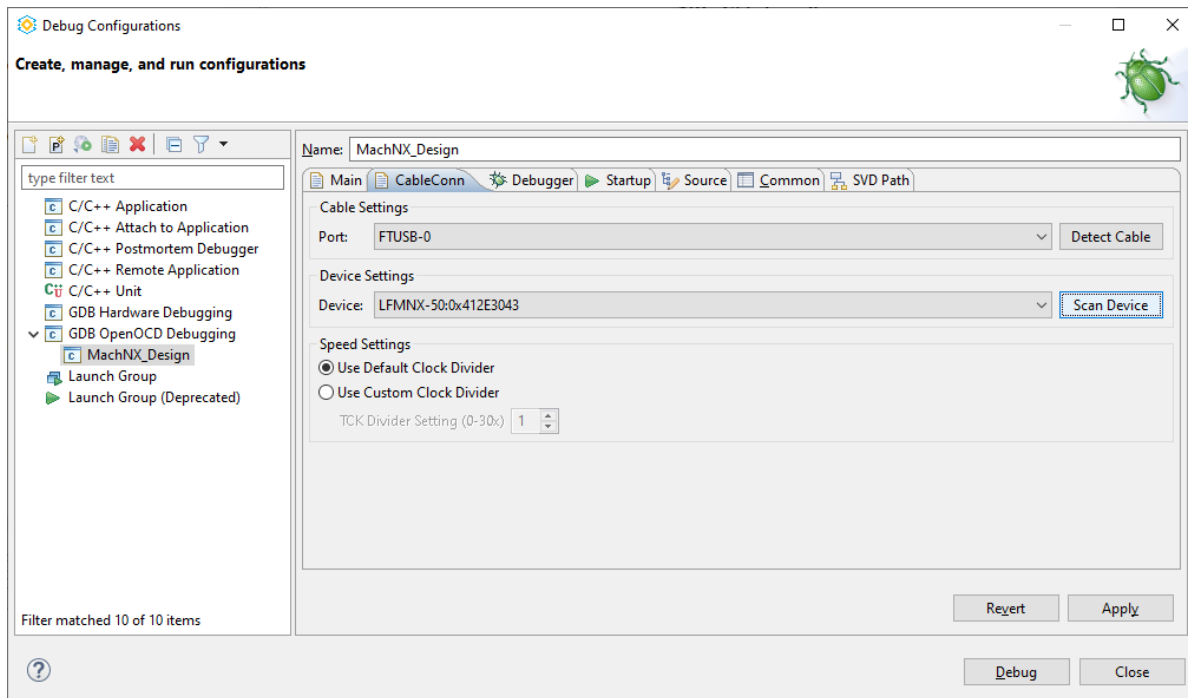

Figure 5.2. CableConn Settings
8. Select the **CableConn** tab as shown in Figure 5.2.